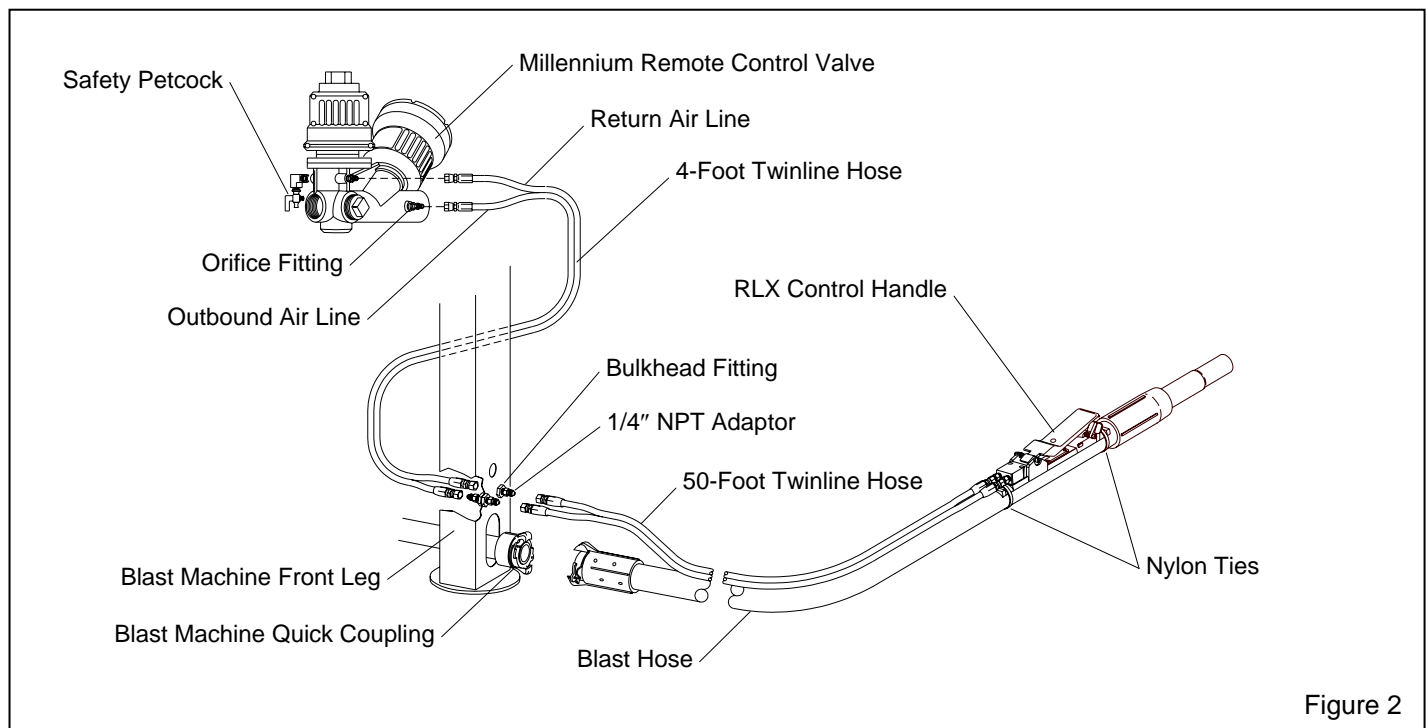

Figure 2
1.3.4.1 The components of the Millennium remote control system are shown in Figure 2. They include the Millennium Valve, RLX Control Handle, 50-foot twinline control hose and 4-foot twinline control hoses, and all necessary fittings.
1.3.4.4 Millennium Remote Controls operate pneumatically on the "return air" principle (See Figure 2). One stream of air travels down the outbound twinline and escapes through an opening located under the control handle lever. As long as air escapes through the opening, the remote control system remains inactive. When the lever is pressed, the opening is sealed, and air from the outbound line returns through the return line to open the inlet segment and close the outlet segment of the Millennium valve. This pressurizes the blast machine and begins the blasting process. Releasing the handle exhausts the control air, which closes the inlet segment, and opens the outlet segment to depressurize the machine and stop the blasting.
2.1 Blast Hose and Control Hose Connections, Ref. Figure 2.